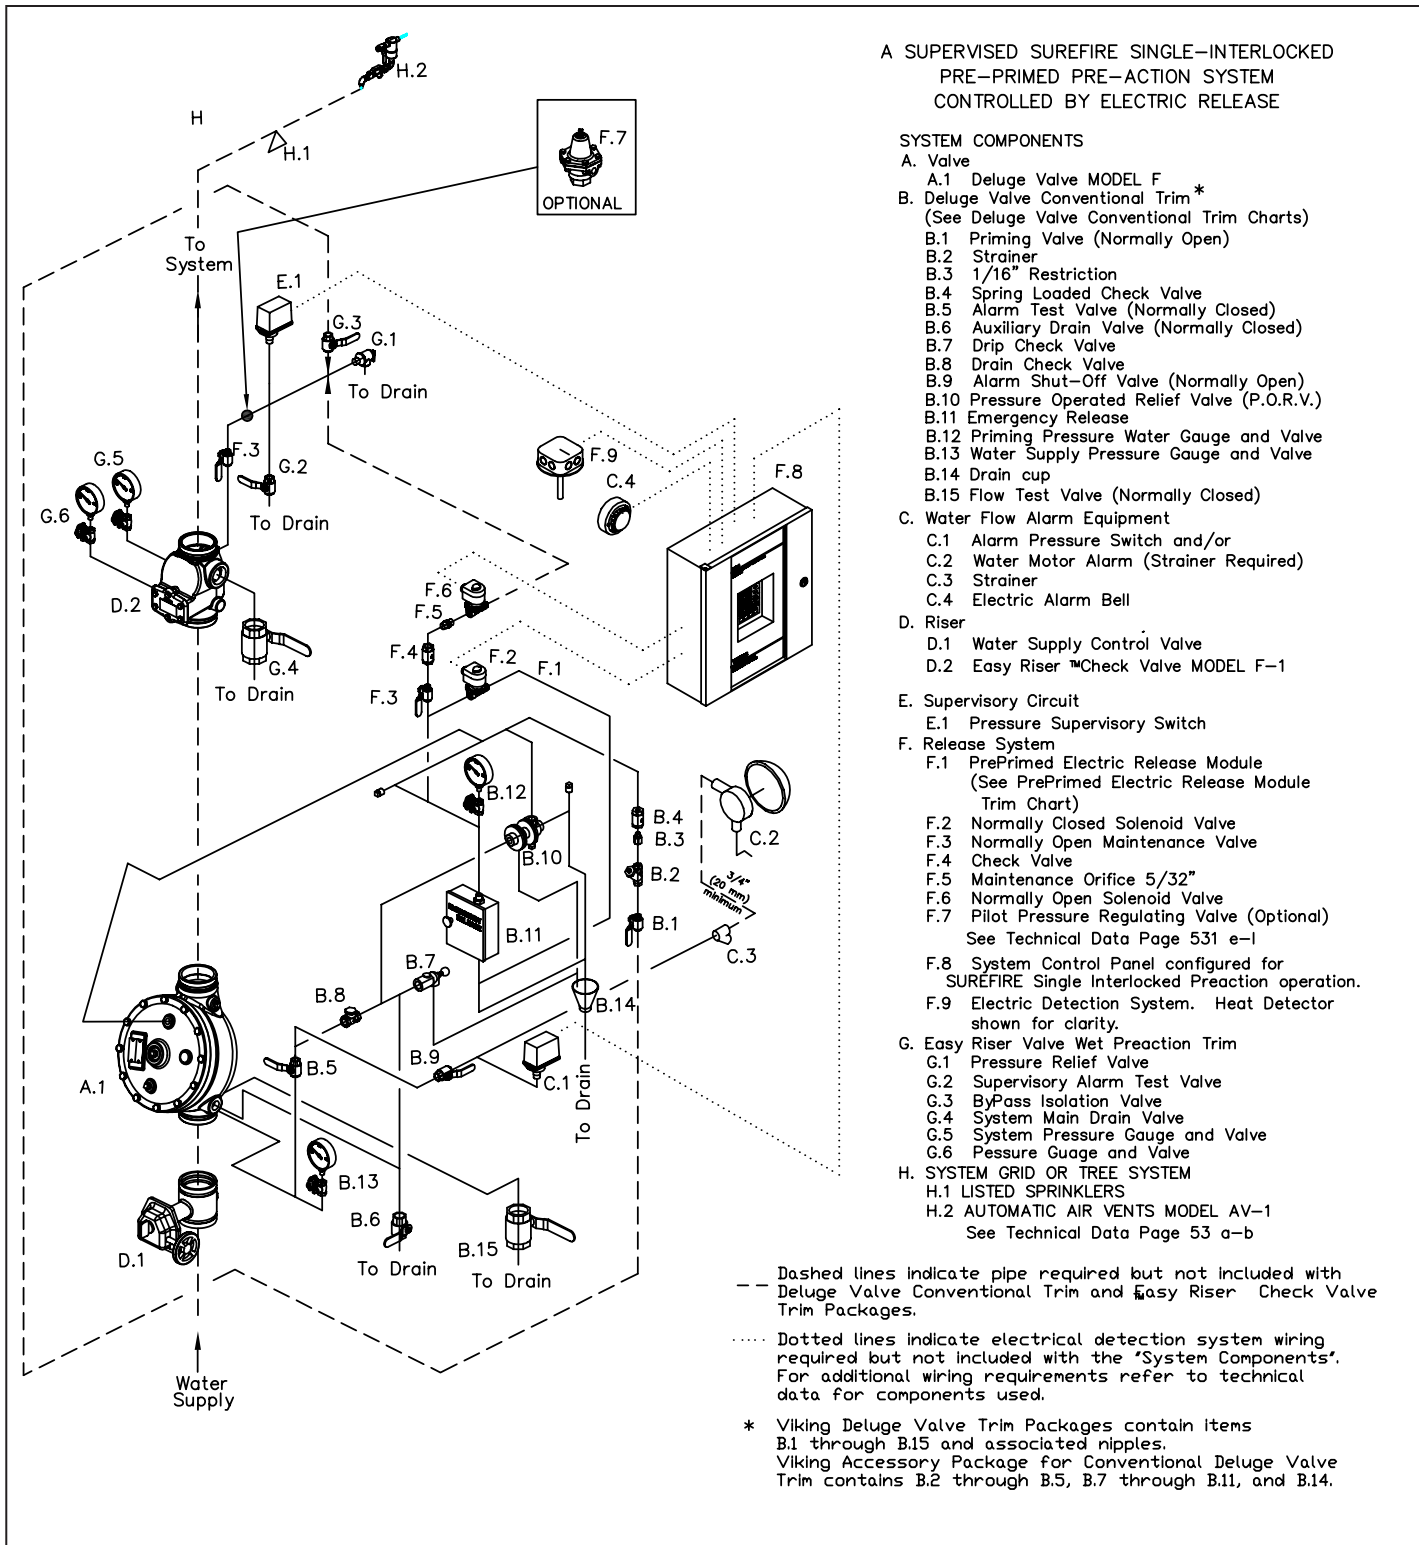

Figure 1: Surefire® Single-Interlocked Pre-Primed Preaction System Controlled by Electric Release Vertical Straight Through Style Valve Conventional Trim
- e. Verify that all valves are secured in their normal operating position. (Refer to Figure 1)